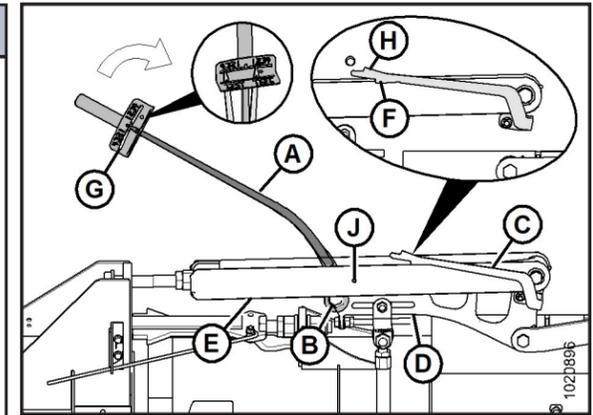

Figure 8: Wing Balance Linkage, Wings Set too Light – Left Side Shown, Right Opposite
- Place torque wrench (A) on bolt (B).
- Check that pointer (C) is properly positioned as follows:
- Use torque wrench (A) to move the bell crank until lower edge of bell crank (D) is parallel to lower edge of top-link (E).
- Ensure pointer (C) is aligned with top-link (E). If necessary, bend the pointer so it aligns with bolt hole (J).
- Move the wing upward with torque wrench (A) until the pointer's lower alignment tab (F) lines up with the upper edge of top-link (E). Refer to Figure 8. Record the reading on torque wrench indicator (G).